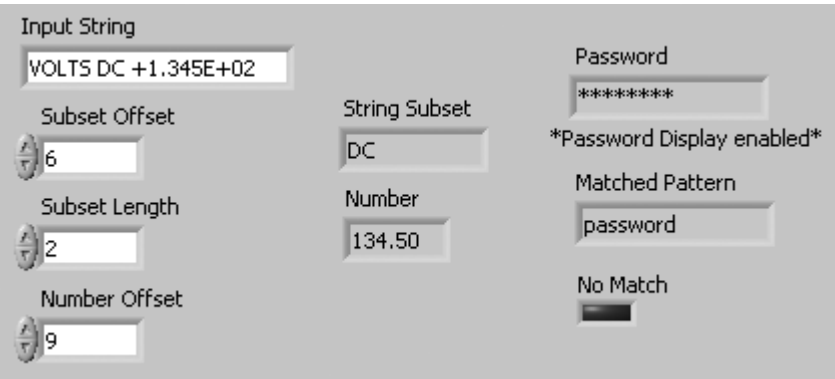

Figure 9.27
- 1. Build the front panel shown in Figure 9.27.